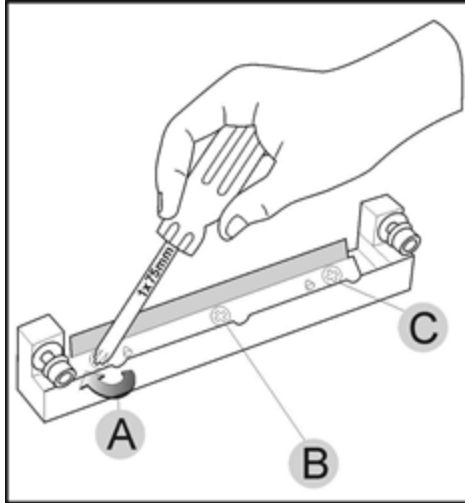

Figure 6-48 Tightening the roller scraper screws
- Tighten the screws in the order shown in Figure 6-48.